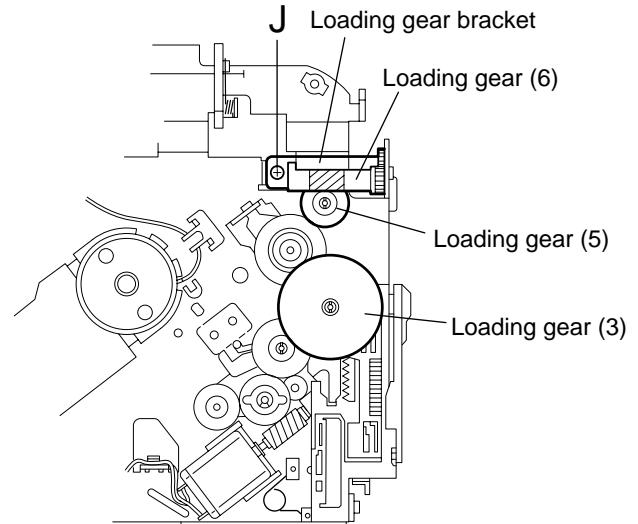

Fig.31
■Removing the loading gear (5), (6) and (7) (See Fig.31 and 32)
1. Remove the screw **J** attaching the loading gear bracket. The loading gear (6) and (7) come off the loading gear bracket.
2. Pull out the loading gear (5).